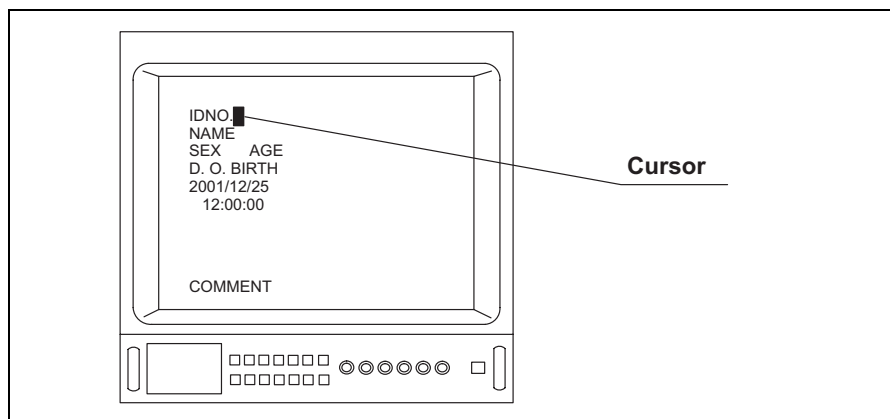

Figure 5.57
When the patient data is displayed on the video monitor, depress the “Shift” key and “Delete” or “Backspace” key on the keyboard at the same time to delete them. Then, the menu shown in Figure 5.57 is displayed on the video monitor.
- Depending upon the OTV-S7V's settings, the menus shown in Figure 5.57 may appear different from those displayed on the video monitor.